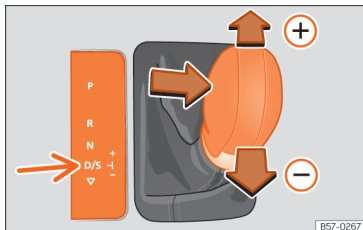

Fig. 245 Centre console: changing gear with tiptronic
- Move the selector lever forwards to select a higher gear >>> **Fig. 245**.